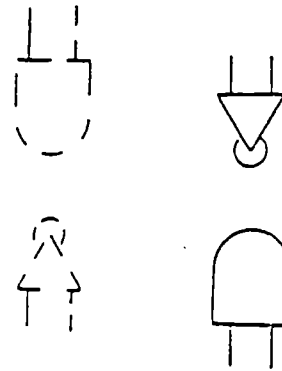

Figure 2.
- c) Place the mirror image over the lamp image (as in figure 2) or along side as desired.